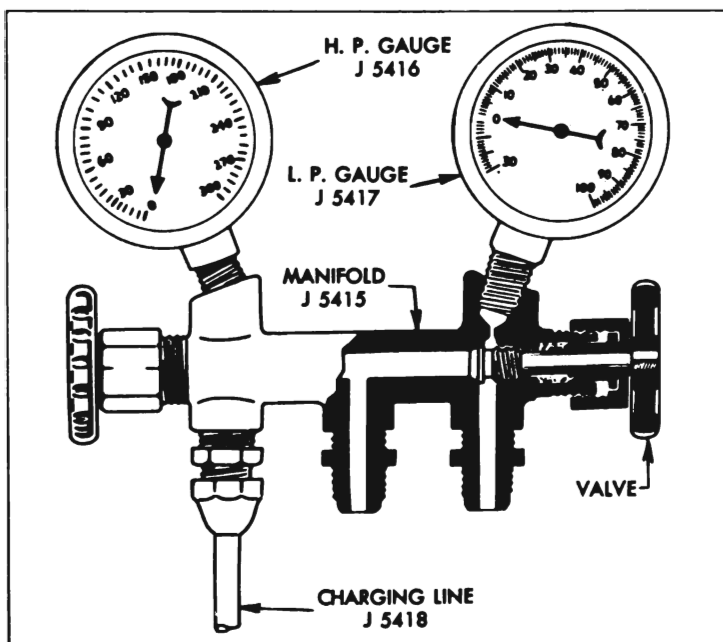

Figure 11-24—Pressure Gauge Set
2. Connect charging lines of Pressure Gauge Set (fig. 11-24) to gauge fittings of both valves, with both valves of Manifold J 5415 closed.